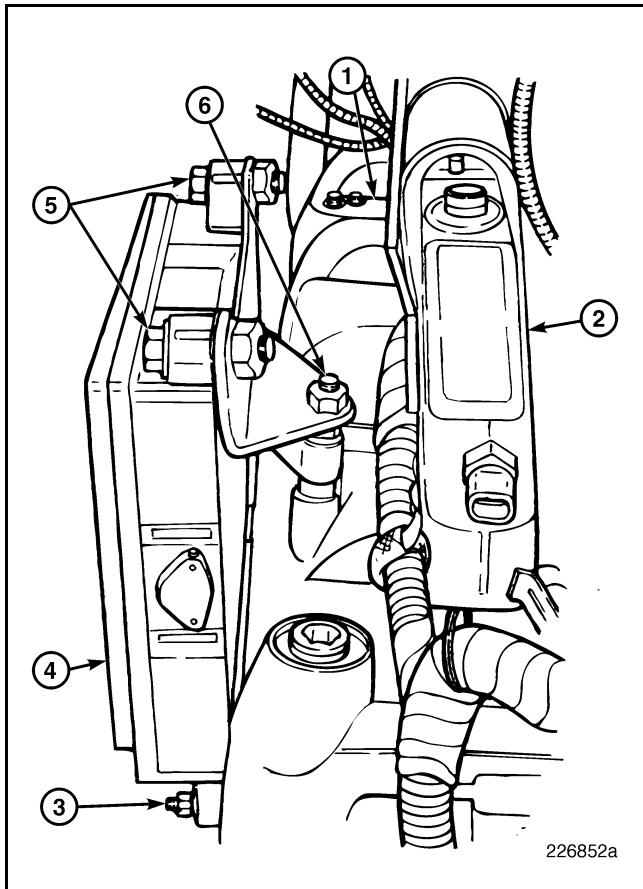

Figure 85 — EECU Removal (Left-Side Mounted Unit)
3. Remove the two top retaining nuts and isolating washers that secure the EECU to the EECU mounting bracket (Figure 85). Then, remove the two bottom retaining nuts and isolating washers that secure the EECU to the of the air inlet manifold.